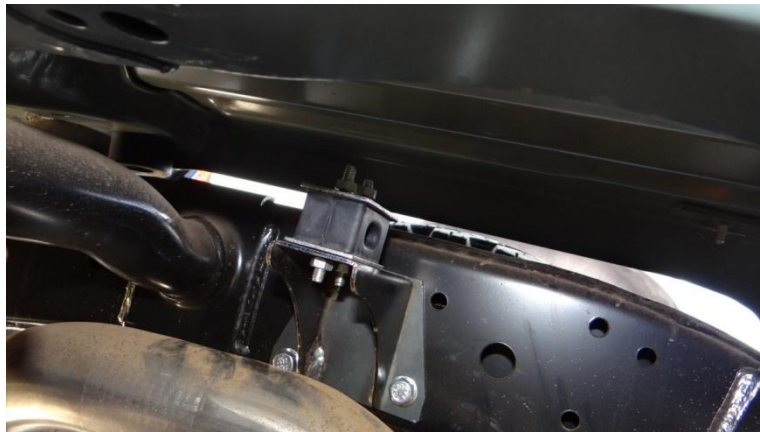

Figure 1.
6. Fit the supplied rear support bracket to the two captive nuts in the chassis rail positioned forward of the tubular rear cross member with two M8x1.25x20mm bolts and finger tight. Refer Figure 1.